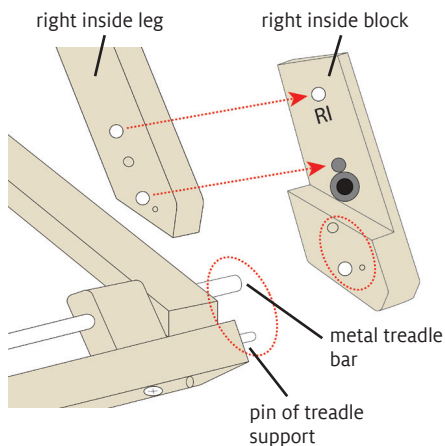

FIGURE 8: IDENTIFY HOLES ON INSIDE BLOCKS
15. Identify the height extender blocks for the inside legs, marked LI and RI. The top two holes of each block line up with holes at the bottom of the inside leg (Figure 8). The lowest holes in the block attach to the treadle assembly.
21. From inside the loom, insert a 1/4-20 x 1-3/4" Phillips truss head machine screw through the second hole from the bottom of the inside leg, into the top hole of an inside height extender block, as shown in Figures 8 and 12. From the outer side of the height extender block, add a 1/4" flat washer and a 1/4-20 lock nut to the shaft of the machine screw. Use a wrench to tighten the lock nut as firmly as possible.